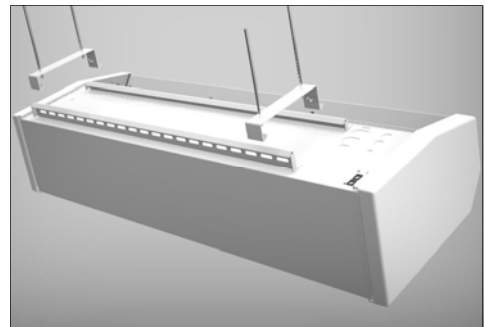

Fig 6
- Step 2** Screw and bolt threaded rods into ceiling brackets as shown in Fig 6.